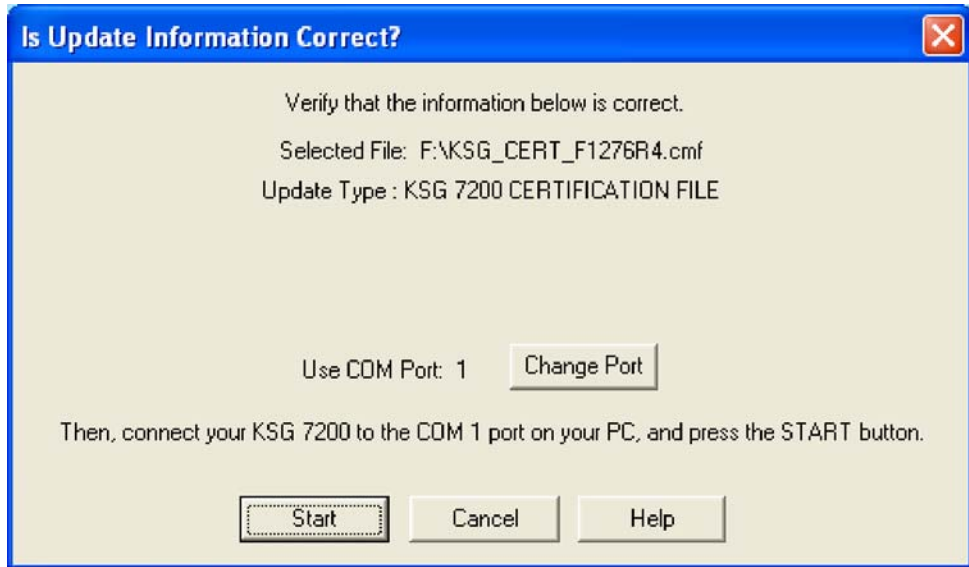

Figure 34. (Sheet 1 of 1) Is Update Information Correct? Window for Twin Otter Certification File KSG_CERT_F1276R4.cmf (Certification File 2a)
- (c) Refer to Figure 34 to identify Twin Otter Certification File 2a.